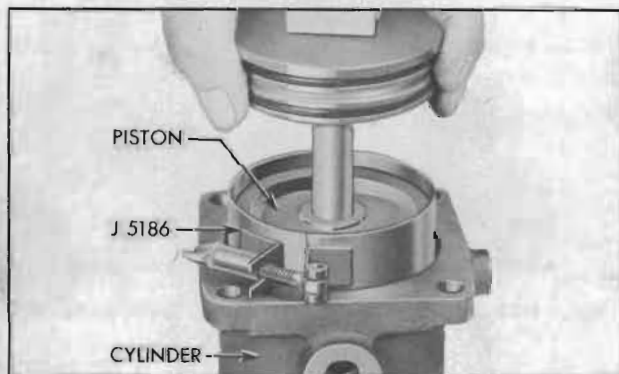

Figure 7-34—Installing Piston With Ring Compressor
19. Use Ring Compressor J 5186 to compress the piston rings, then install piston and adapter in power cylinder. See figure 7-34. It may be necessary to tap the end of power rack with a soft mallet to push rings through the compressor and into cylinder. Tap the adapter down flush with cylinder flange.